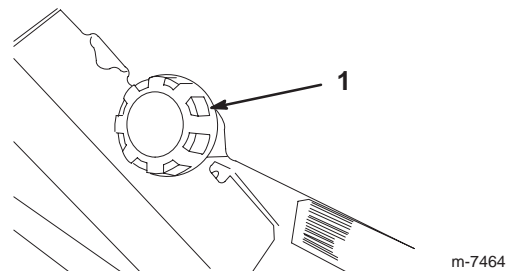

Figure 3
3. Clean around the fuel tank cap and remove it (Fig. 3).